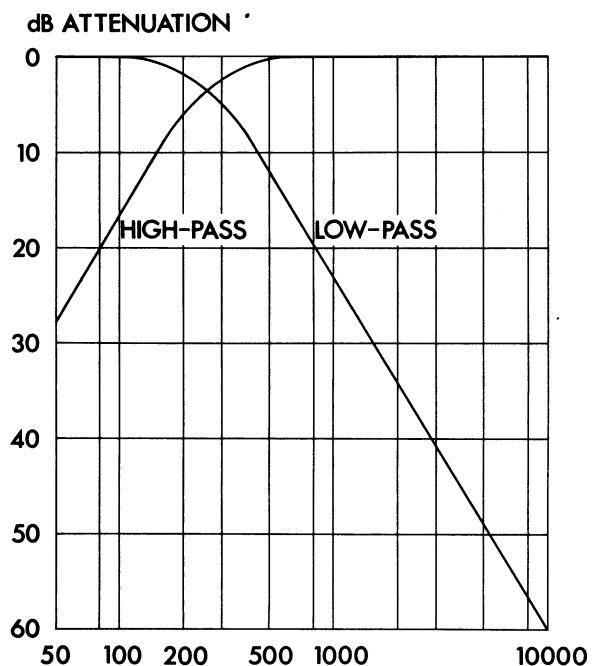

Fig.5. Response Curves of the built-in low-pass and high-pass filters.
- 7) Press the RESPONSE button HIGH PASS in order to limit the influence of hum, if the rms level of the harmonics is wanted. If the fundamental frequency (the frequency to which the FREQUENCY dial is tuned) is lower than 500 cps, please consult the response curves of Fig.5 for correction.
ment is only relevant for fundamental frequencies above 1 kc. For fundamental frequencies below 5 kc, please consult the response curves of Fig.5 for correction.
The flat frequency response can be changed by switching in a high-pass or low-pass filter, both having their 3 dB points at 250 cps. With only the high-pass filter operative, the distortion arising from harmonics is measured, whilst the hum is left out. On the other hand the low-pass filter is able to exclude the harmonics and measure the hum alone. In both cases Fig.5 should be consulted to determine the possible errors from insufficient attenuation.